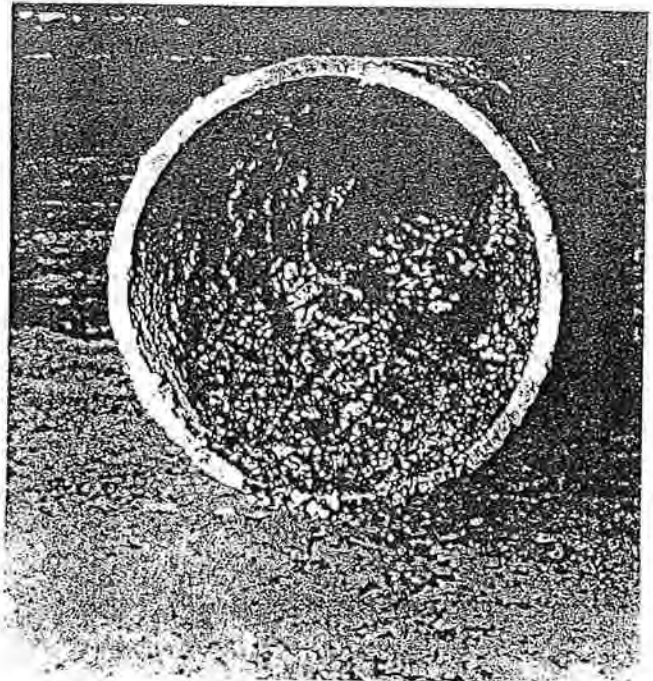

Fig. 1-2. Corrosion and clogging in a water pipe.
1.24 Figure 1-2 shows what can happen to a piping system. The sludge and corrosion in the pipe
1.34 The piping in Fig. 1-2 could have been cleaned by either running chemical solvents through the lines or using mechanical clean-out devices. The solvents dissolve the sludge and corrosion, thus freeing the line so that it can once again supply the needed 80 pounds of pressure. The clean-out devices do the same job mechanically. One type of clean-out device has steel scrapers which clean the sludge out as the tool is drawn through the section of pipe. Rubber squeegee discs at the end of the tool wipe the material out of the pipe after it has been freed by the scrapers.
1.40 Even a small particle of dirt in a high-pressure air system can be very destructive when it passes through an air turbine. You have probably seen buildings being cleaned by sandblasting. On a smaller scale, dust particles will sandblast air-powered equipment. This is why they must be removed from the line. Filters and strainers in a pipeline carrying liquids help prevent the condition illustrated in Fig. 1-2.